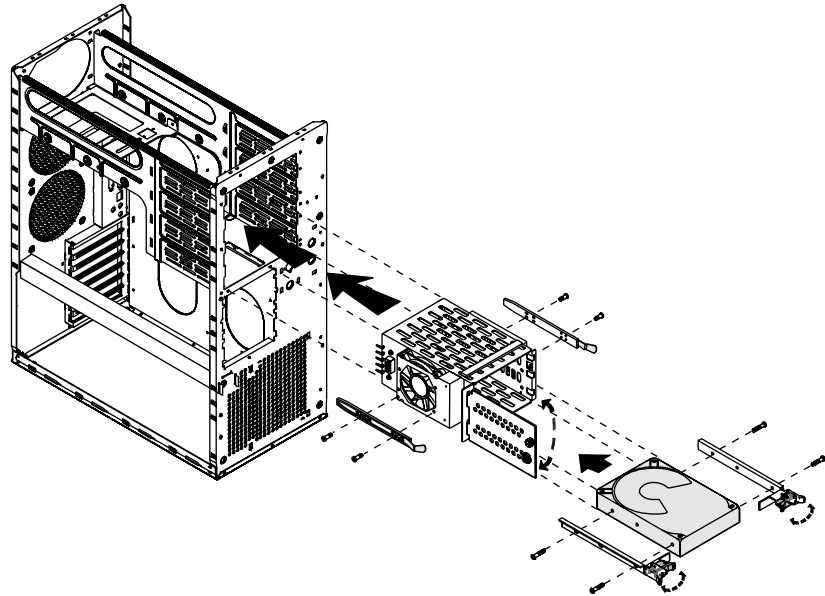

Figure 30: Replacing the SCSI Drives
3. Reinstall the SCSI drives in the new RAID cage by aligning the rails and sliding them all the way into the cage (see Figure 30).